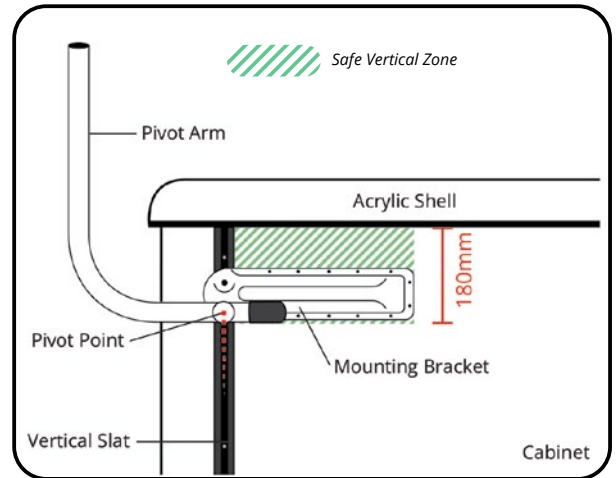

Figure 2
Thread a washer (M) and locknut (L) onto the hex cap bolt and tighten gently, enough so that the pivot arm (D) moves freely on the mounting bracket and is secure, but not too stiff. Rotate the pivot arm into the upright position as seen in 'Figure 2' if it is not already.
Take a bracket assembly (rounded end of the bracket pointing towards the back of the spa pool) and press it against the spa cabinet. Gently slide the bracket assembly to the left or right so that the pivot point (hex bolt) lines up to be centered over the recess in the 'vertical slat'. (See 'Pivot point' location marked in 'Figure 2').
While keeping the horizontal position (pivot point centered over top of the recess) gently slide the bracket up or down to your desired position\* while staying between the green 'safe vertical zone' shown in 'Figure 2' (180mm from under the acrylic). The bracket assembly should be level before being screwed in.